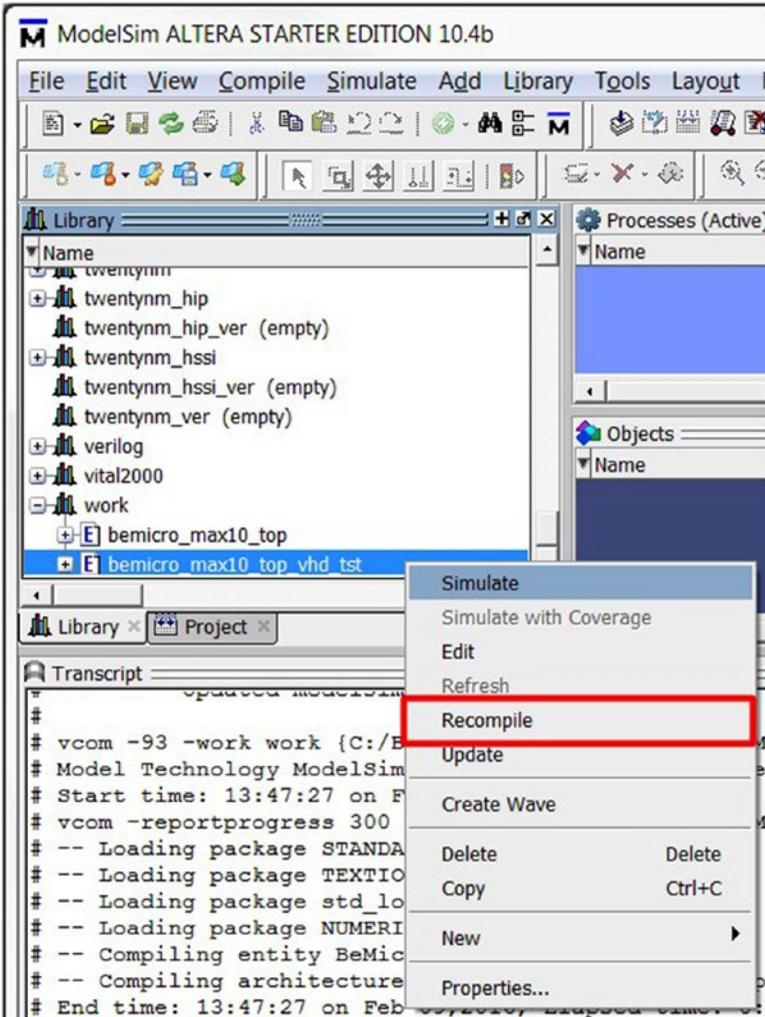

Figure 4-42. Recompile `bemicro_max10_top_vhd_tst`
8. Right-click the `bemicro_max10_top_vhd_tst`, and click **Recompile** (Figure 4-42). This will recompile the test bench again. Once completed you should see Figure 4-36 in the Transcript log.